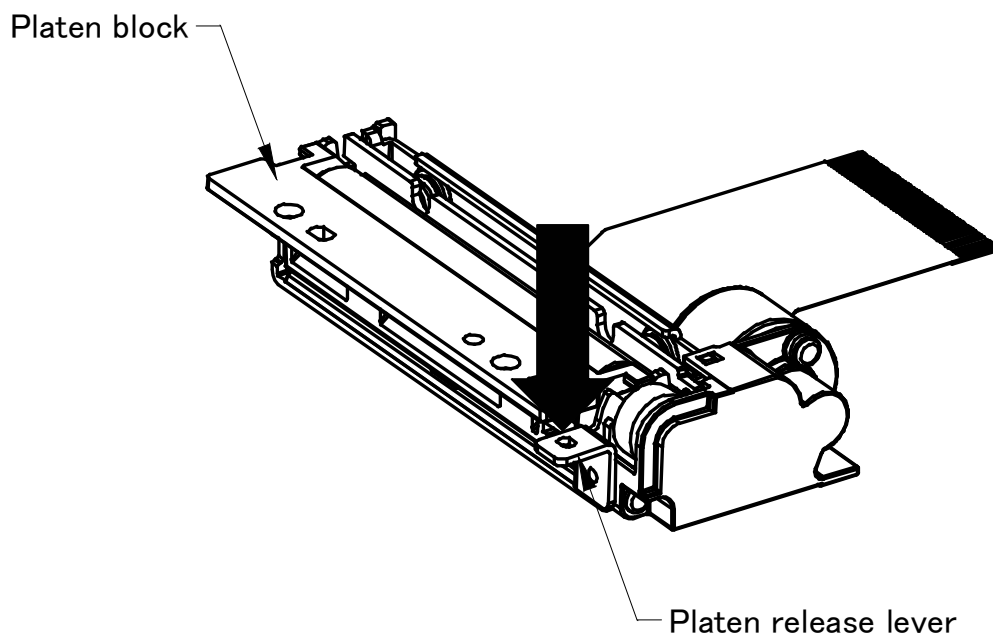

Figure 8-1 Loading the Thermal Paper (1)
① Installing the thermal paper
- Push the platen release lever in the direction of the arrow in the Figure 8-1.
- Push the platen release lever to the direction of the arrow in the Figure 8-1. Pull up the platen block after making sure that the platen block is released from the printer main body.